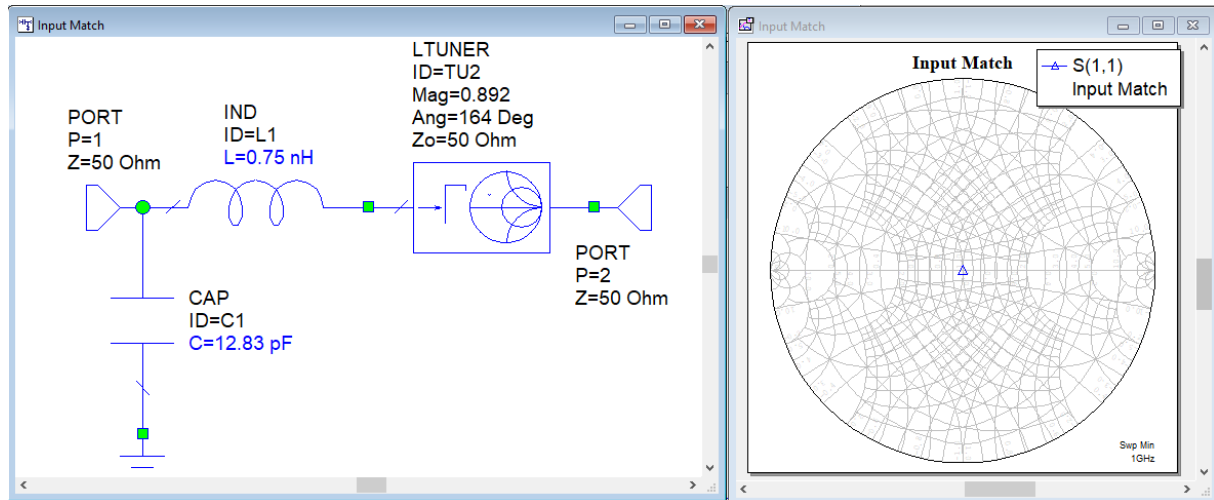

Fig. 6 Input matching circuit and resulting reflection coefficient.
- Add both lumped elements and use TUNE TOOL to set their proper values to reach the center of the Smith Chart, as shown in Fig. 6.